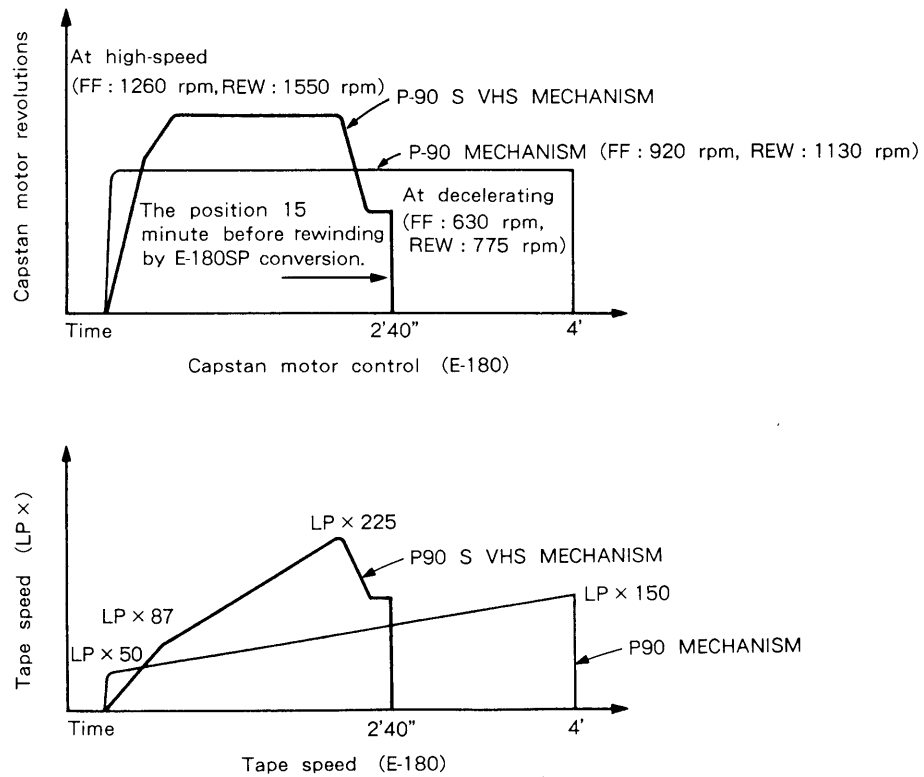

Fig. 1-1. Comparison of Conventional Mechanism and P-90 S VHS Mechanism
- 2) The mode transition time as shown in Fig. 1-1 is reduced, comparing with P-90 mechanism. The tape rewind time is largely reduced by FF/REW high-speed. Therefore, the following points are taken into consideration in P-90 S VHS.